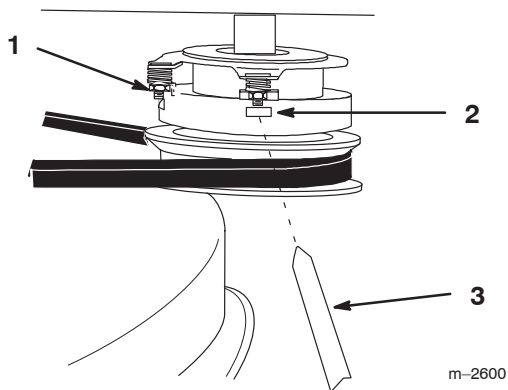

Figure 34
1. To adjust clutch, tighten or loosen lock nuts on flange studs (Fig. 34).
2. Check adjustment by inserting feeler gauge through slots next to studs (Fig. 34).